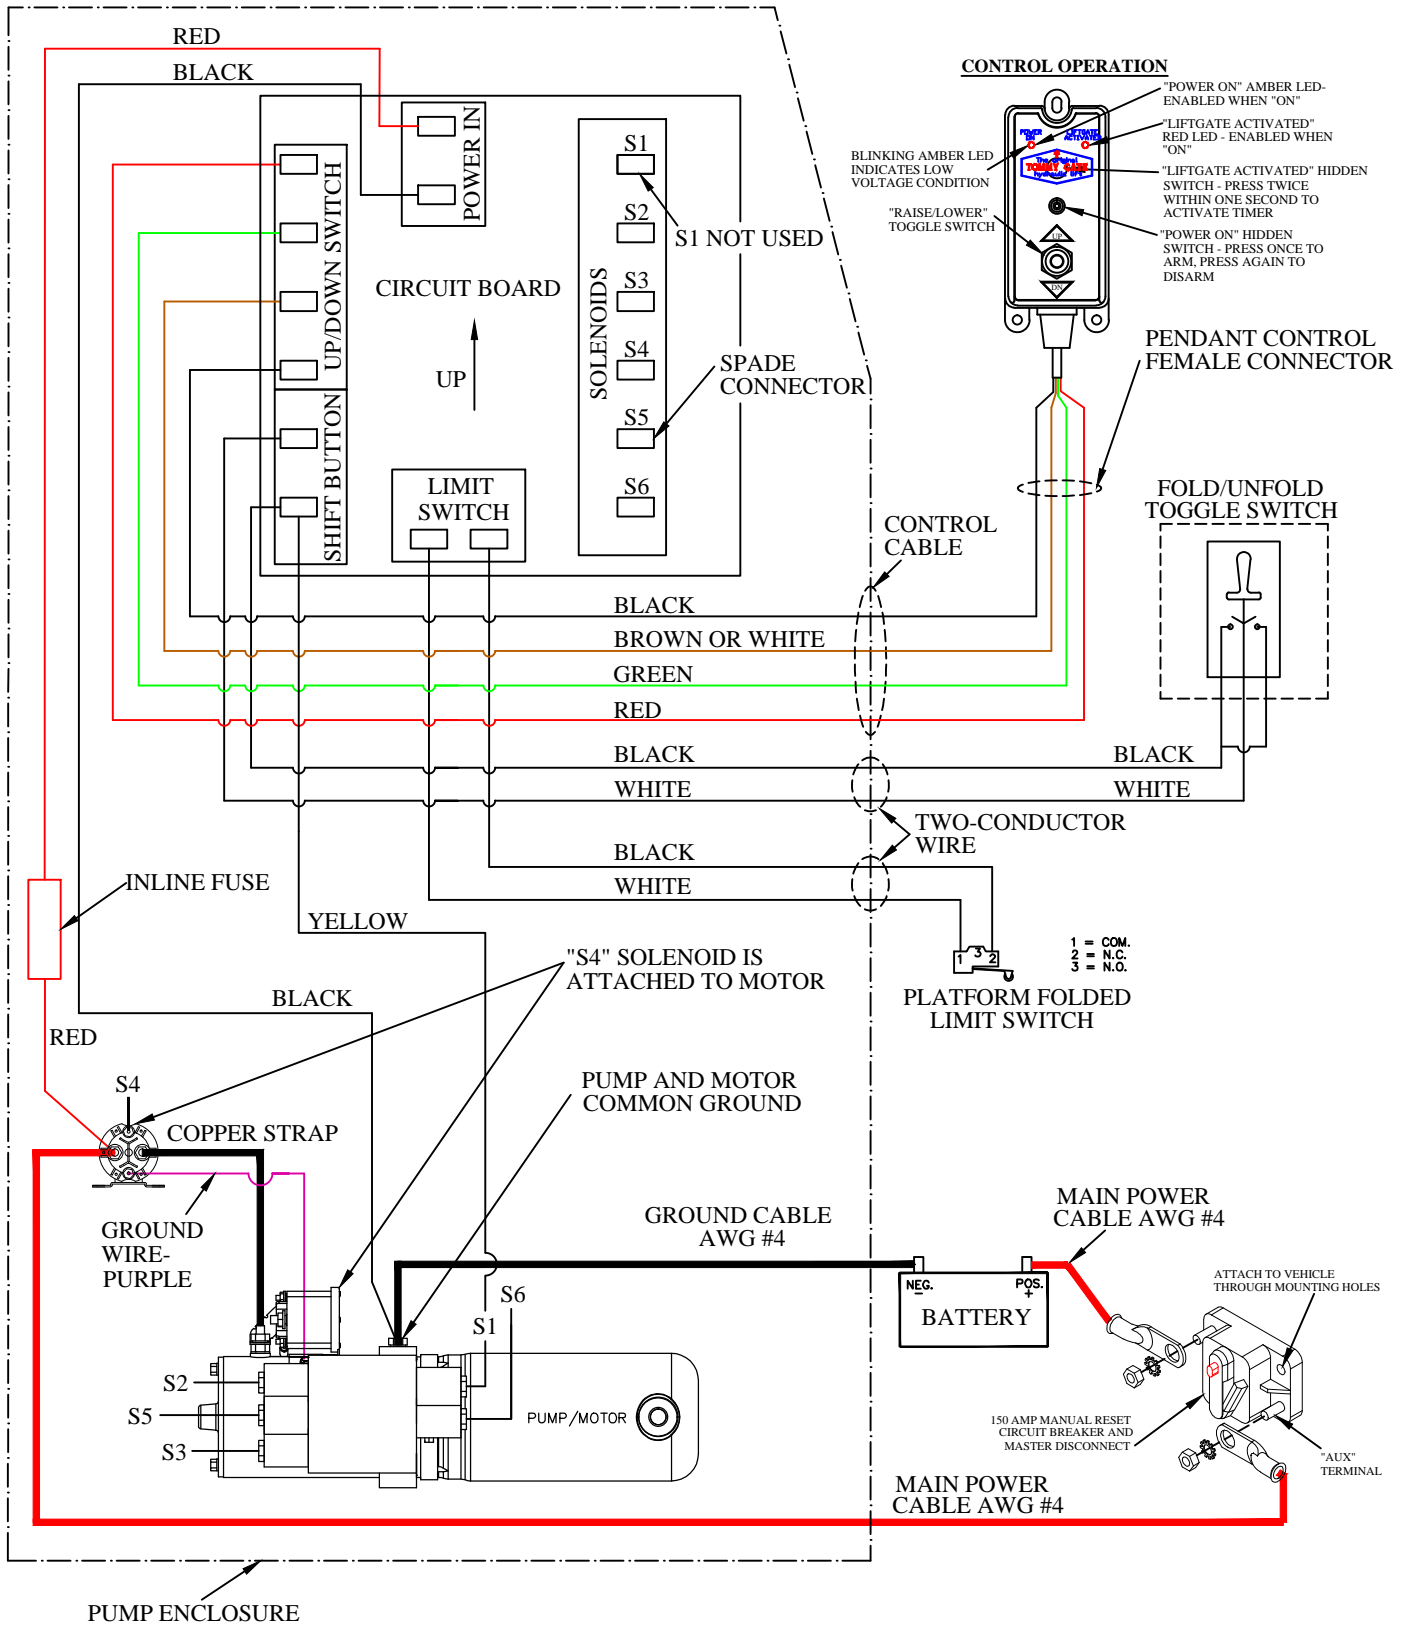

Figure 12: Wiring diagram.
9. Connect the circuit breaker and battery as outlined in the *Tommy Gate Recommended Electrical Wiring Guidelines* and wiring diagram (Figure 12).
14. Connect the wires to the toggle switch (Figure 12).
16. Install the supplied two (2) 1/4-20 self-tapping screws, through the female connector, through the mounting bracket, and into the door pillar.